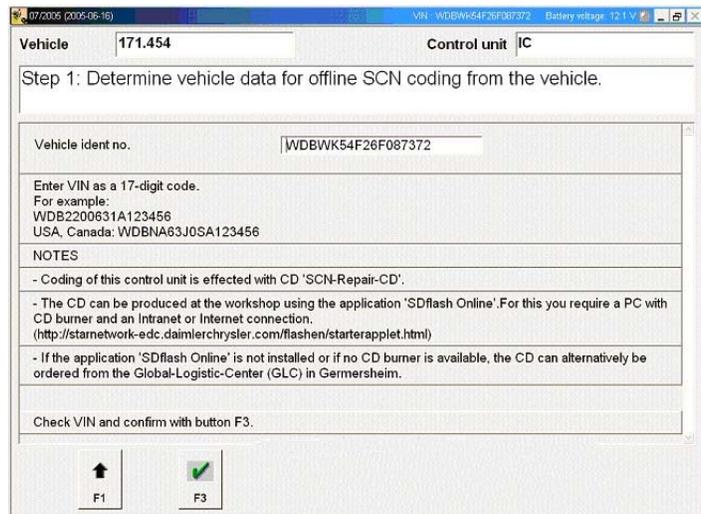

Figure 3
4. Confirm VIN. Press 'F3' (Figure 3)